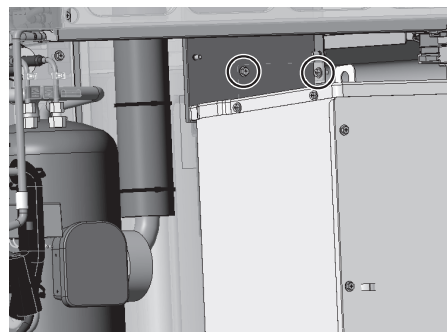

Figure 8
(9B) Mount a new four-way valve (21S4b). Figure 8 shows how to position a new four-way valve.
- (8) Remove the inverter cooling duct by unscrewing the two screws. (See Figure 8. Applicable to the S-module only)